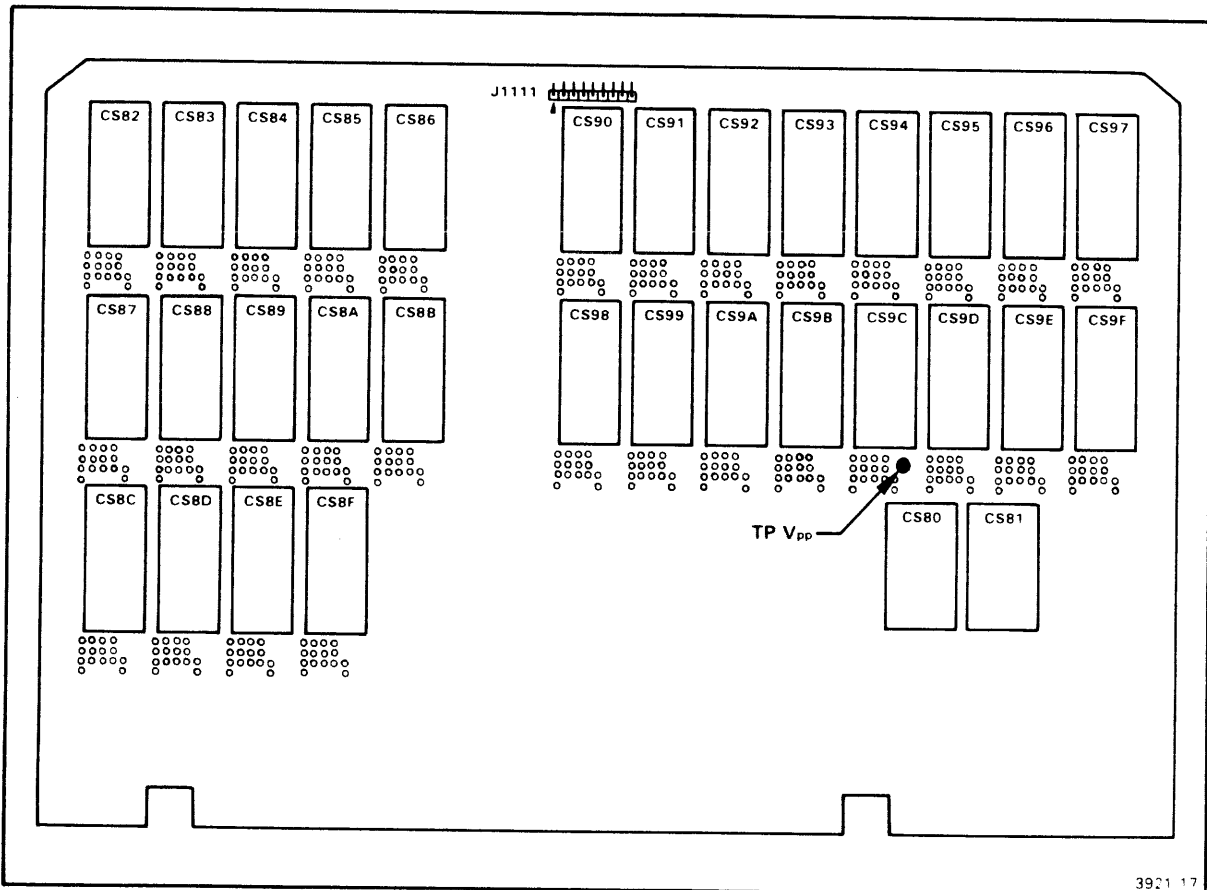

Fig. 3-4. System ROM Board socket locations.
- The Emulator Option ROMs should be installed in the sockets labeled CS82 through CS8B as shown in Fig. 3-4 (circuit numbers U1010 through U1070 and U3010 through U3070 on the System ROM Board).
- Install the PROM Programmer Option ROMs in locations CS90 and CS91 as shown in Fig. 3-4 (circuit numbers U1110 and U1120 on the System ROM Board).
- The Communications Option (COMM Option) ROM should be installed in location CS8F as shown in Fig. 3-4 (circuit number U4060 on the System ROM Board).
- Install the Trigger Trace Analyzer Option ROMs in locations CS8E, CS8D and CS8C as shown in Fig. 3-4 (circuit numbers U4050, U4030 and U4010 on the System ROM Board).
Figure 3-4 shows the locations and the assigned labels for the 32 ROM sockets on the System ROM Board.